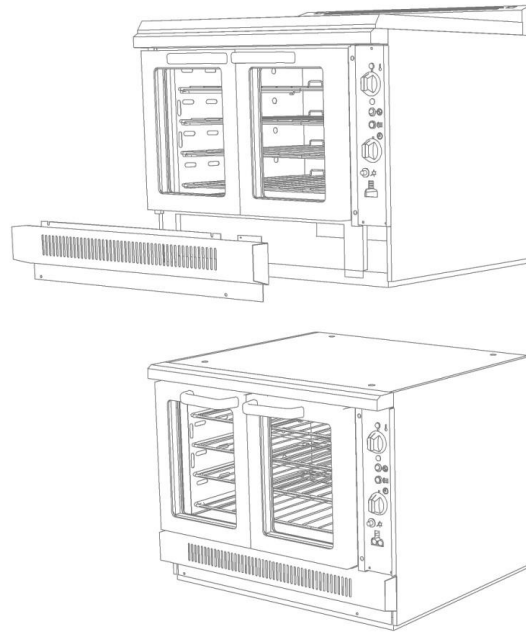

Figure 2
2.1.4 G2112 C/2 Two Tier Oven (See Figure 2)